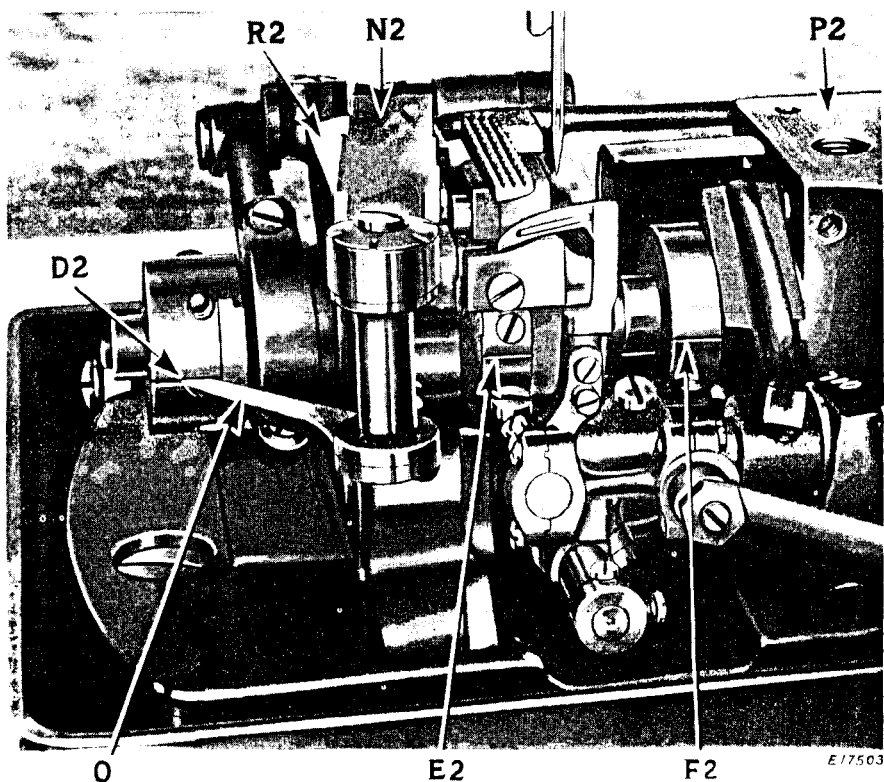

Fig. 13. Timing the Machine
**Z or H2**—To determine the correct height of the needle bar on its downward stroke. Turn the balance wheel over from you until the needle bar descends to the stop Z or H2. With the needle bar in such position, the three timing marks D2, E2 and F2, Fig. 13, page 18 should all be in exact alignment with each other.
○—To align the three timing marks D2, E2 and F2, Fig. 13, remove the presser foot and the cloth plate. Place the flat portion N2, Fig. 13 of the gauge on the machine casting at R2, Fig. 13 and turn the indicat-